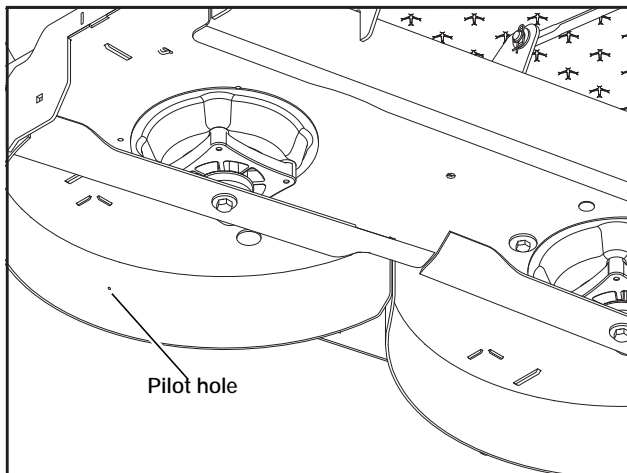

FIG. 1
3. Locate the pilot hole on the right rear wrapper. Drill the pilot hole out to .406". FIG. 1